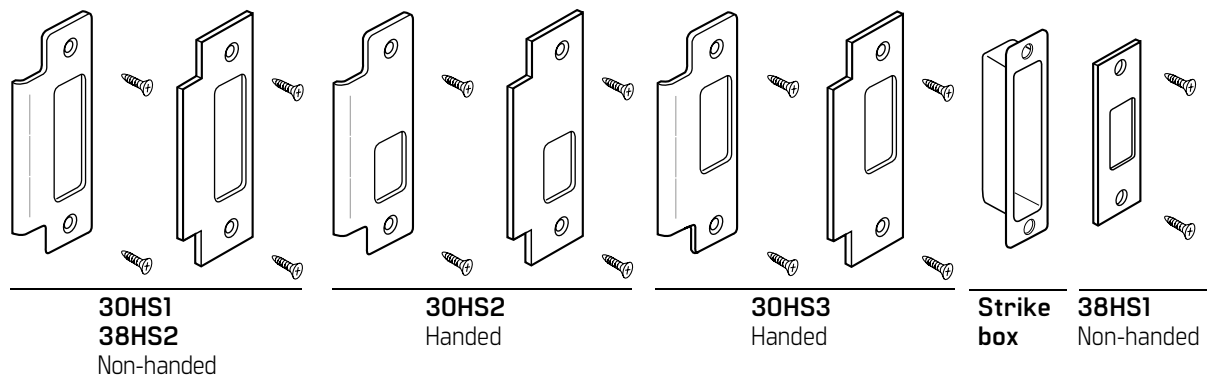

Figure 3.17 Strikes and strike box
**Note:** See Figure 3.17 for an illustration of the strike styles.